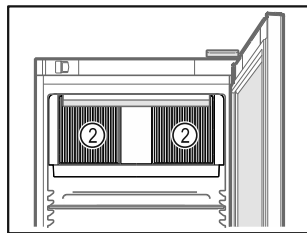

Fig. 49
- ☐ Ventilation slots Fig. 49 (2) for recirculation fan in the interior must be kept clear.